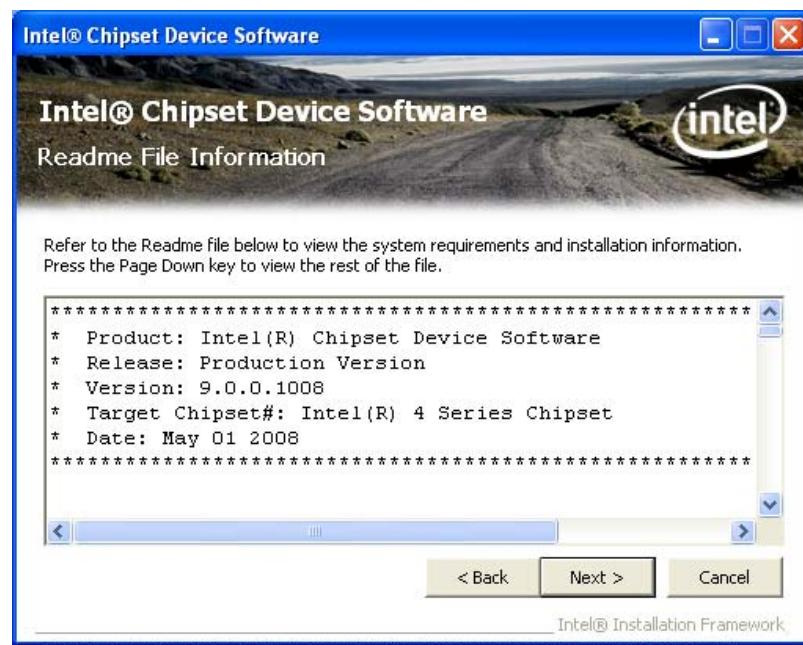

Figure 6-7: Chipset Driver Read Me File
Step 9: The Read Me file in **Figure 6-7** appears.